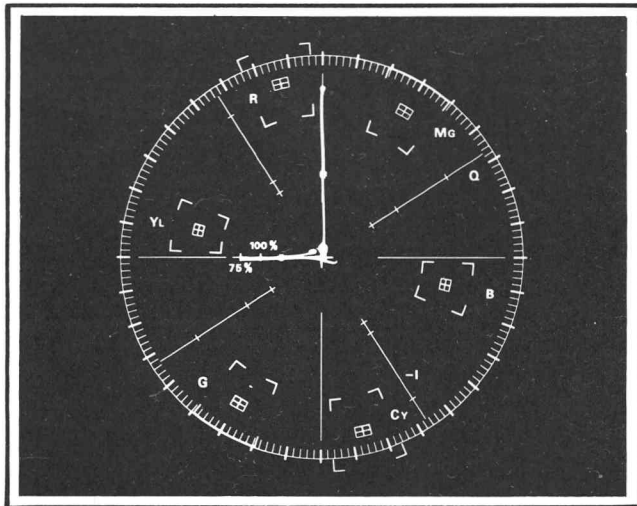

Fig. 2-12. Vector presentation of 180° and modulated 90° subcarriers.
13. Rotate the 146 APL/IRE LEVEL switch to 0, and set the MOD STAIRCASE 90° SUBCARRIER switch to MOD. The display should consist of a burst vector at 180° , a subcarrier vector at 180° , and three dots along the 90° axis corresponding to the modulated 90° subcarrier. See Fig. 2-12.